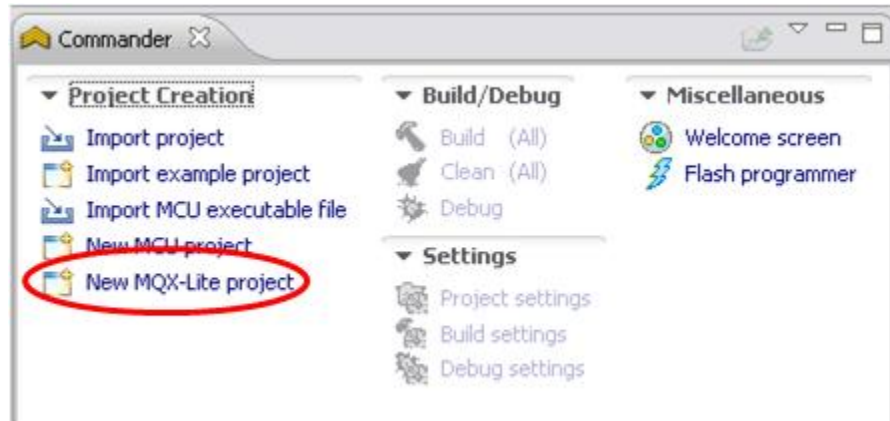

Figure 3. Commander window
1. The Commander window includes an option to create a new project for MQX-Lite. See Figure 3.